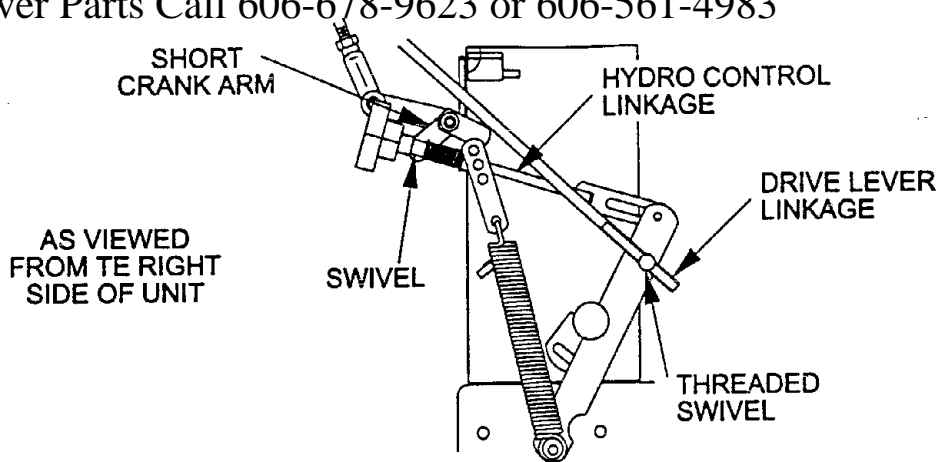
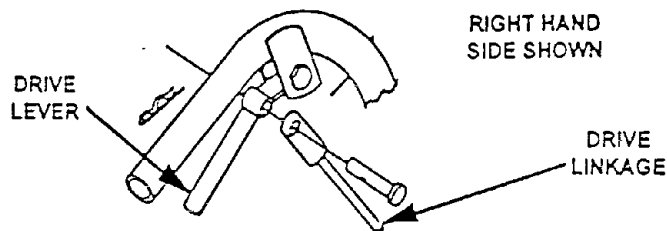

FIG. 5
FIG 6
- 3.14 Thread each drive linkage into the threaded swivel. (See Figure 5). Connect the upper end of each drive linkage to the drive levers. Fasten with a long clevis pin and cotter pin. Be sure the clevis pin is first inserted through the drive linkage and then through the drive lever from the outside before installing the hairpin cotter (See Figure 6).